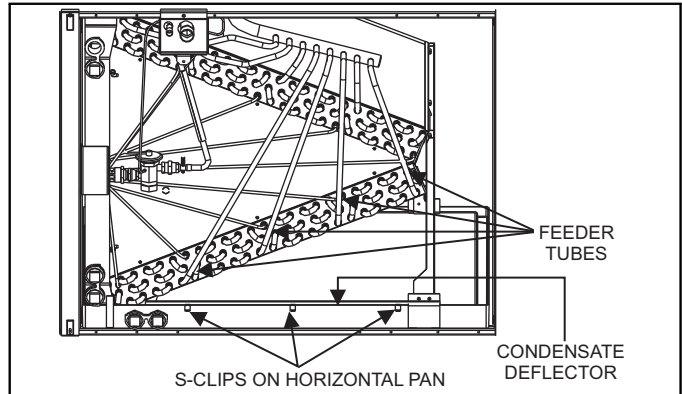

FIGURE 5: Condensate Deflector on Horizontal Drain Pan Edge
2. Refer to the unit rating plate for the air handler model number, and then see the dimensions page of this instruction for supply air plenum dimensions in Figure 5. The plenum must be installed according to the instructions.
For both horizontal applications, the condensate deflector should be positioned as shown in Figure 5.
Air supply and return may be handled in one of several ways best suited to the installation. See Figure 5 for dimensions for duct inlet and outlet connections.
The supply air duct should be properly sized by use of a transition to match unit opening. All ducts should be suspended using flexible hangers and never fastened directly to the structure. This unit is not designed for non-ducted (freeblow) applications. Size outlet plenum or transition to discharge opening sizes shown in Figure 5.
Air filters must be field supplied. A 1" filter access rack has been built into the unit. See Figure 5. Remove filter access cover shown. Install proper size filter. Standard 1" size permanent or throw away filter may be used, or, permanent washable filters are available using model numbers: 1PF0601, 602 or 603BK. See Table 2 for filter size.